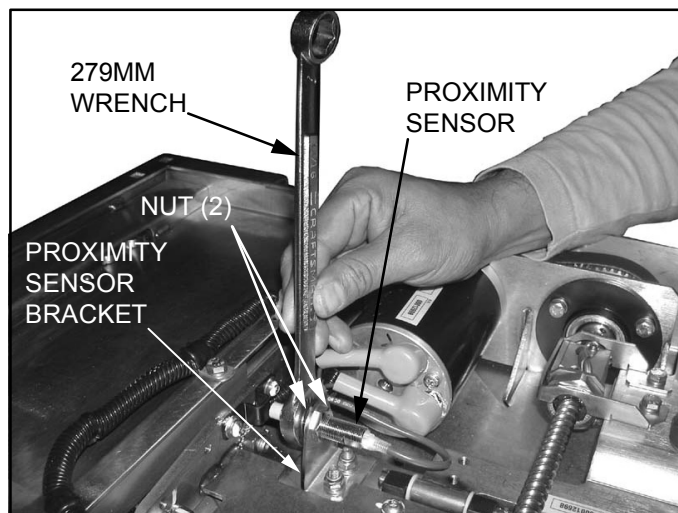

FIGURE 4-12: PROXIMITY SENSOR
- e. Refer to **Figure 4-12**. Remove and retain two 279mm hex nuts that attach the proximity sensor to the proximity sensor bracket.
- d. Refer to **Figure 4-12**. Slide the proximity sensor in through proximity sensor bracket.